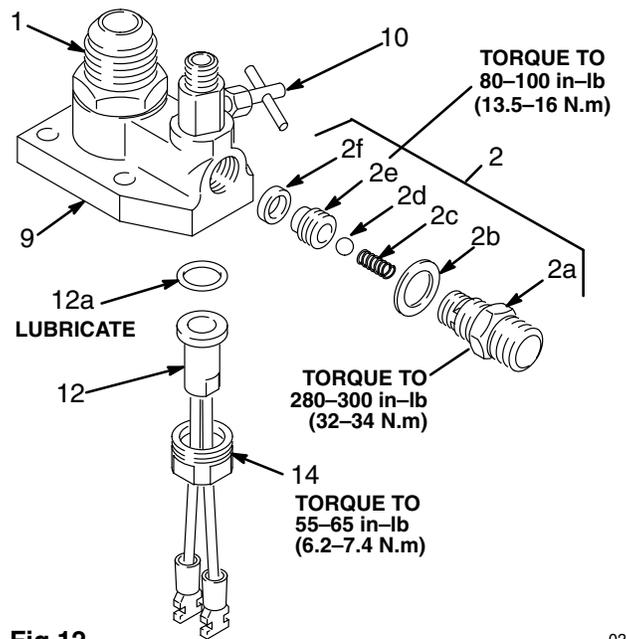

Fig 12
3. Unscrew the retainer (14) and remove the pressure switch (12) and o-ring (12a). See Fig 12.
4. Grease and install a new o-ring (12a) in the pump housing (9). See Fig 12.
Outlet Valve (See Fig 12.)